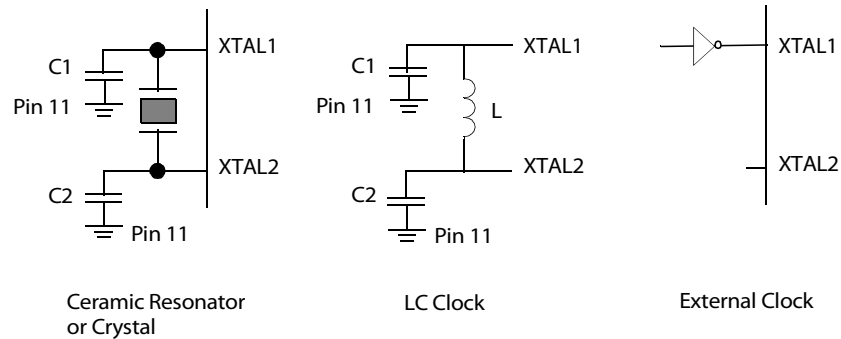

Figure 19. Oscillator Configuration
The Z86E61/Z86E63 MCU's on-chip oscillator features a high gain, parallel resonant amplifier for connection to a crystal, LC, ceramic resonator, or any suitable external clock source (XTAL1 = Input, XTAL2 = Output). The crystal should be AT cut, 1 MHz to 20 MHz max; series resistance (RS) is less than or equal to 100 Ohms. The crystal should be connected across XTAL1 and XTAL2 using the recommended capacitors ($10\text{pF} < \text{CL} < 100\text{pF}$) from each pin to ground; see Figure 19.